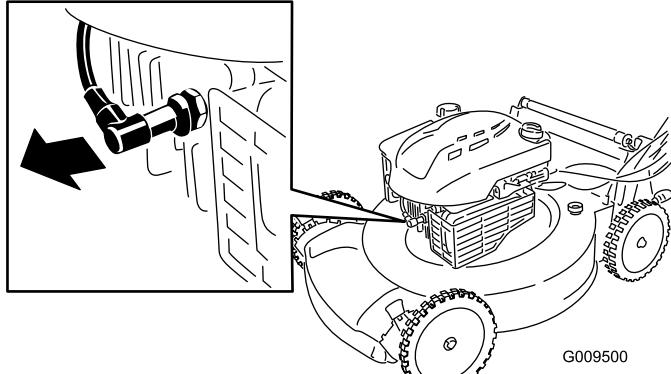

Figure 14
- Disconnect the spark plug wire from the spark plug (Figure 14) before performing any maintenance procedure.